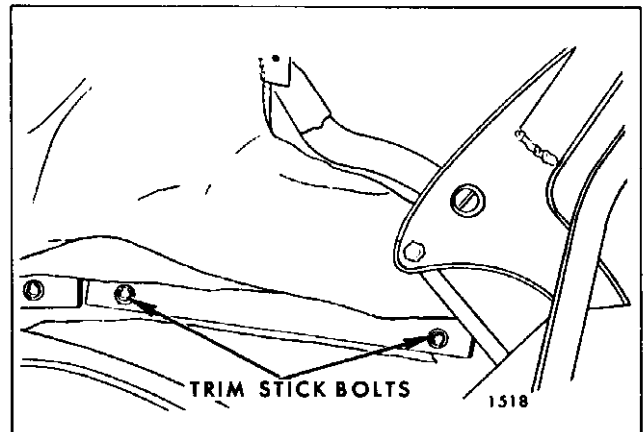

Fig. 13-34 - Rear Quarter Trim Stick
17. At each rear quarter area remove attaching bolts securing rear quarter trim stick assembly to rear quarter inner panel (Fig. 13-34).